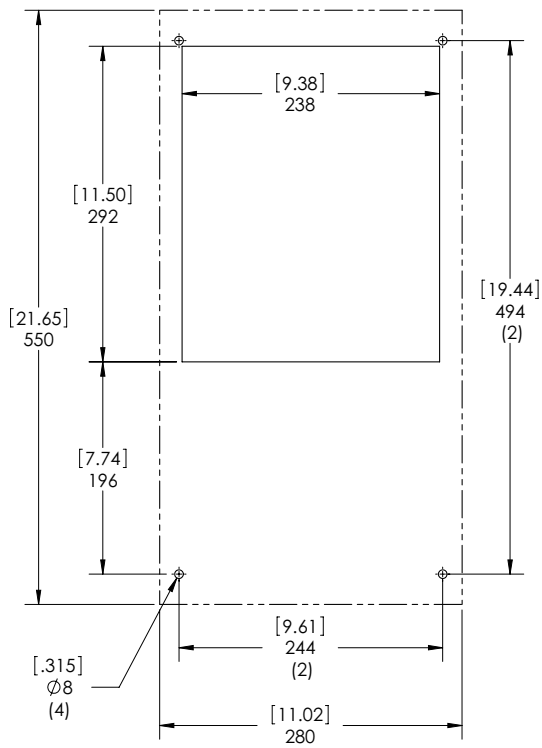
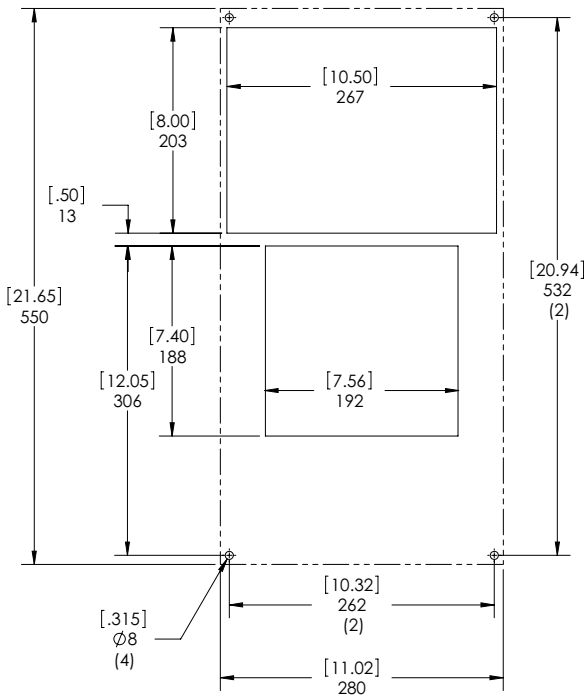
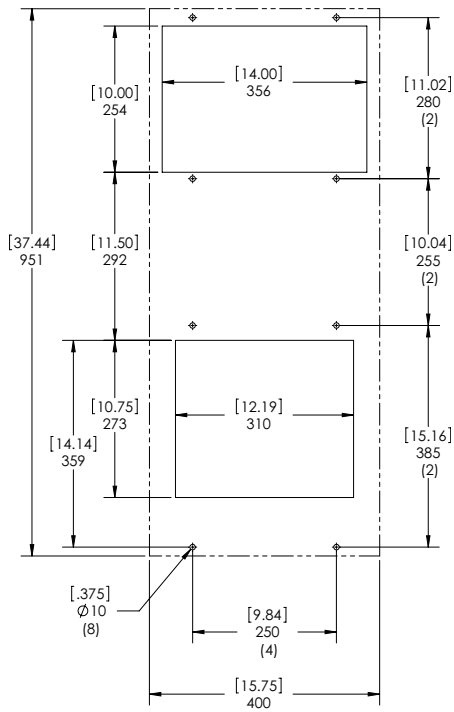
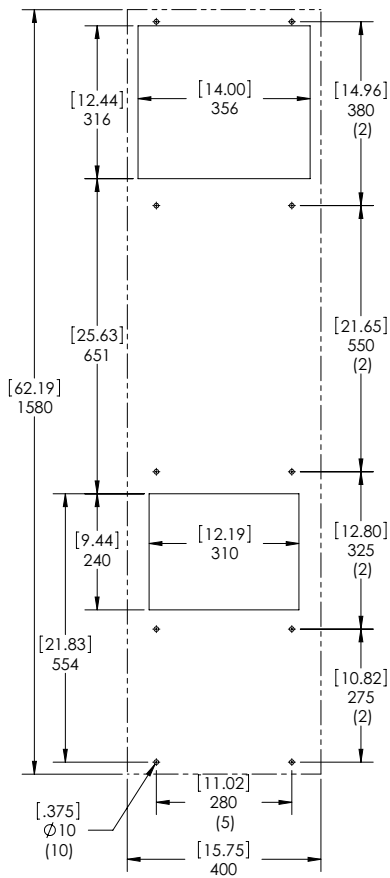

Figure 5
Figure 6
Figure 7
Figure 8
- 2. See Figure 5 or Figure 6 or Figure 7 or Figure 8 or Figure 9 for the enclosure cutout diagrams, depending on the unit being installed.